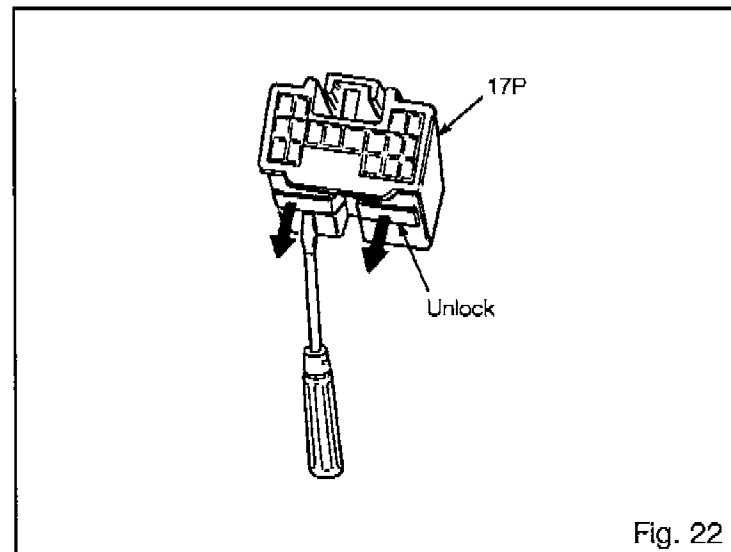

Fig. 22
- (4) A) Locate the lock tabs on the bottom of the female (terminals) 17P connector. Fig 22
- B) Using a small, straight blade screwdriver, pick and unlock the tabs. Fig 22